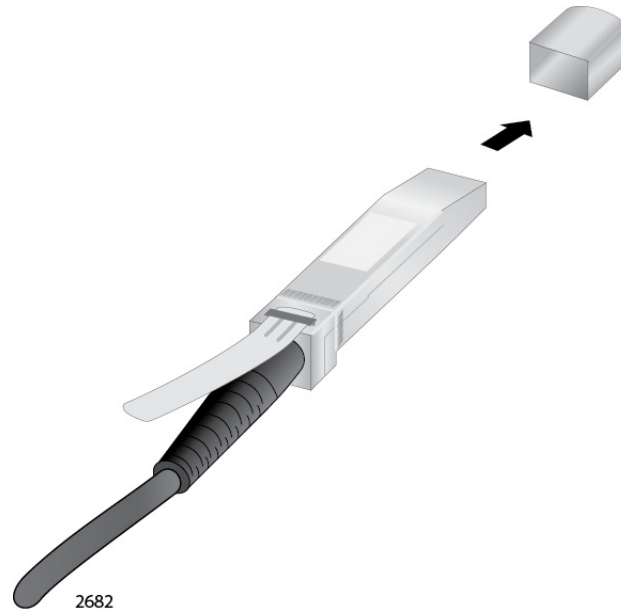

Figure 38. Removing the Dust Cover from the Transceiver
3. Remove the dust cap from one end of the transceiver, as shown in Figure 38 on page 84.